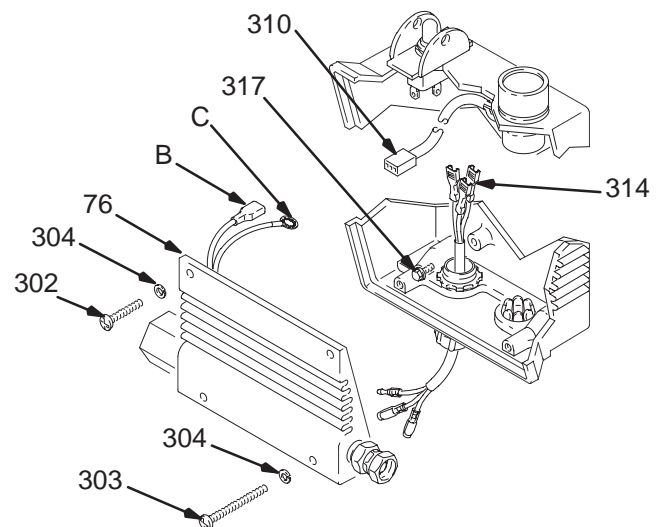

Fig. 8
3. Remove the four mounting screws and washers (302, 303, 304) from the pressure control cover (76). See Fig. 8.
4. Carefully remove the pressure control cover (76) so as not to stress the cables.
5. Disconnect the black and white wires of the pressure control cable (314) from the pressure control cover.
6. Disconnect the potentiometer cable assembly (310) from the pressure control cover.
7. Disconnect the red power lead (B) from the ON/OFF switch.
8. Loosen the ground terminal screw (317) and disconnect the ground lead (C).